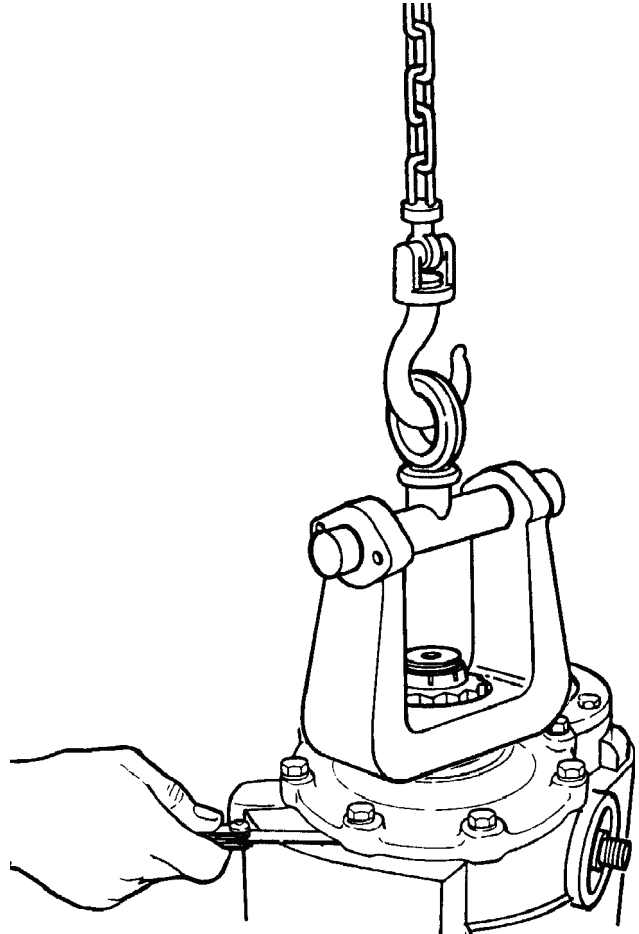

Figure 97.
- (2) Install capscrews, but not the washers, that fasten the input bearing cage to the carrier. Rotate the input shaft in each direction to make sure the bearings are correctly installed while tightening the capscrews by hand. **DO NOT TIGHTEN THE CAPSCREWS TO THE SPECIFIED TORQUE.**
- (3) Use a feeler gauge to measure the gap between the input bearing cage and the differential carrier. Check the gap at four equally-spaced places on the cage. Figure 97.